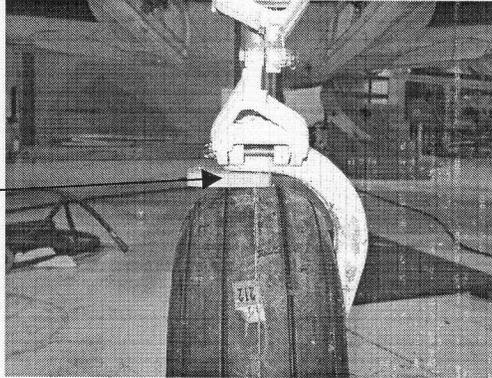

Figure 1. Nose Strut/Tire Clearance
We recently became aware of a large variation in the diameter of the Goodyear 380x150/15x6.00-5 nose tire used on the JetProp conversion. We are not sure why there is such a large variation in tire diameter but expect it is due to different vendors that Goodyear uses. However, we do know that if there is less than 0.45 inches of clearance between the top of the tire and the bottom of the nose strut, the tire might deform enough during takeoff/landing to rub on the bottom of the nose strut which is not desirable. To prevent this problem JetProp is now using a tire trimmer/truer to ensure the proper diameter of the nose tire and assigning the tire JetProp part # 560.04.112. Therefore, when replacing the nose tire on the JetProp always use JetProp part # 560.04.112. It is also recommended that the clearance between the nose tire and the bottom of the nose strut be checked after installing a new nose tire. With the aircraft is resting on the gear the clearance should be 0.50 inches or more. A 0.5 inch thick block placed in between the tire and bottom of the nose strut as shown in Figure 1 will ensure proper clearance. If the clearance is less than 0.45 inch, contact JetProp LLC at (509) 535-4401 for additional options.